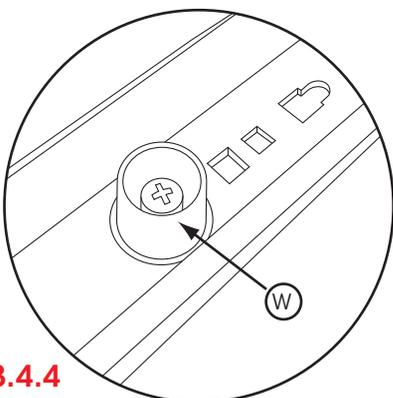

Fig: 3.4.4
- Install the safety stop (W) at the end of the horizontal track as shown in Fig 3.4.4.